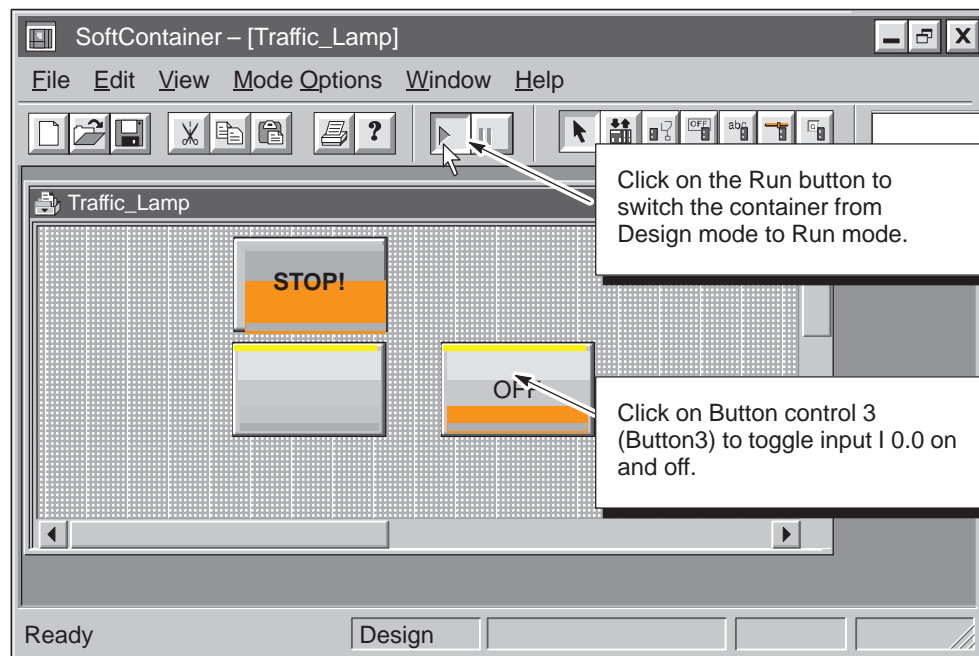

Figure 3-28 Placing the SoftContainer into Run Mode
1. As shown in Figure 3-28, select the Run icon or use the **Mode ▶ Run** menu command to place the SoftContainer in Run mode and connect the process form to WinLC.
2. As shown in Figure 3-28, click on the button labelled “OFF” (which is Button control 3, or Button3) to start the cycles for the PC Station program.